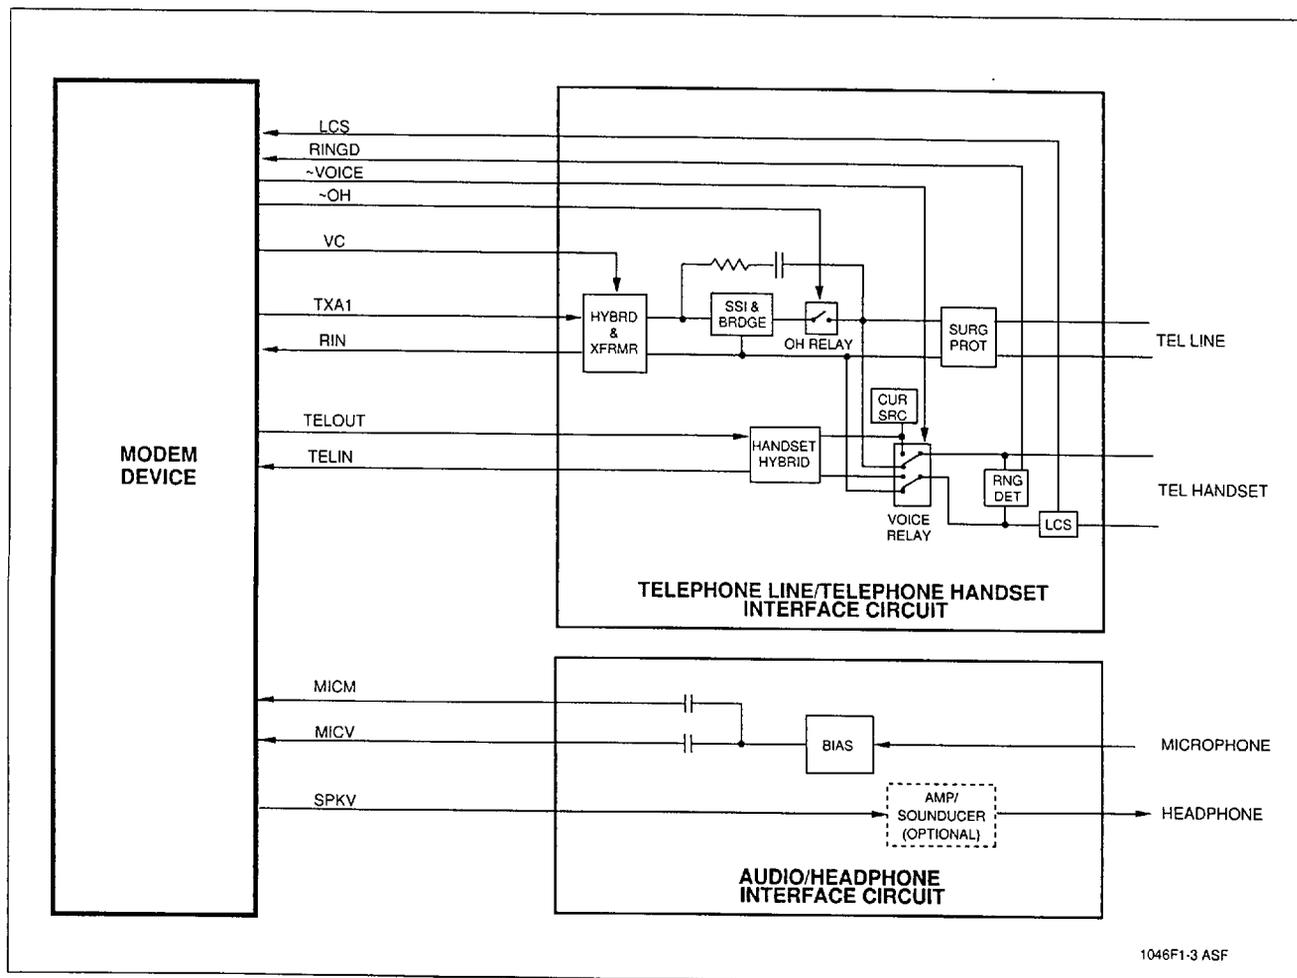
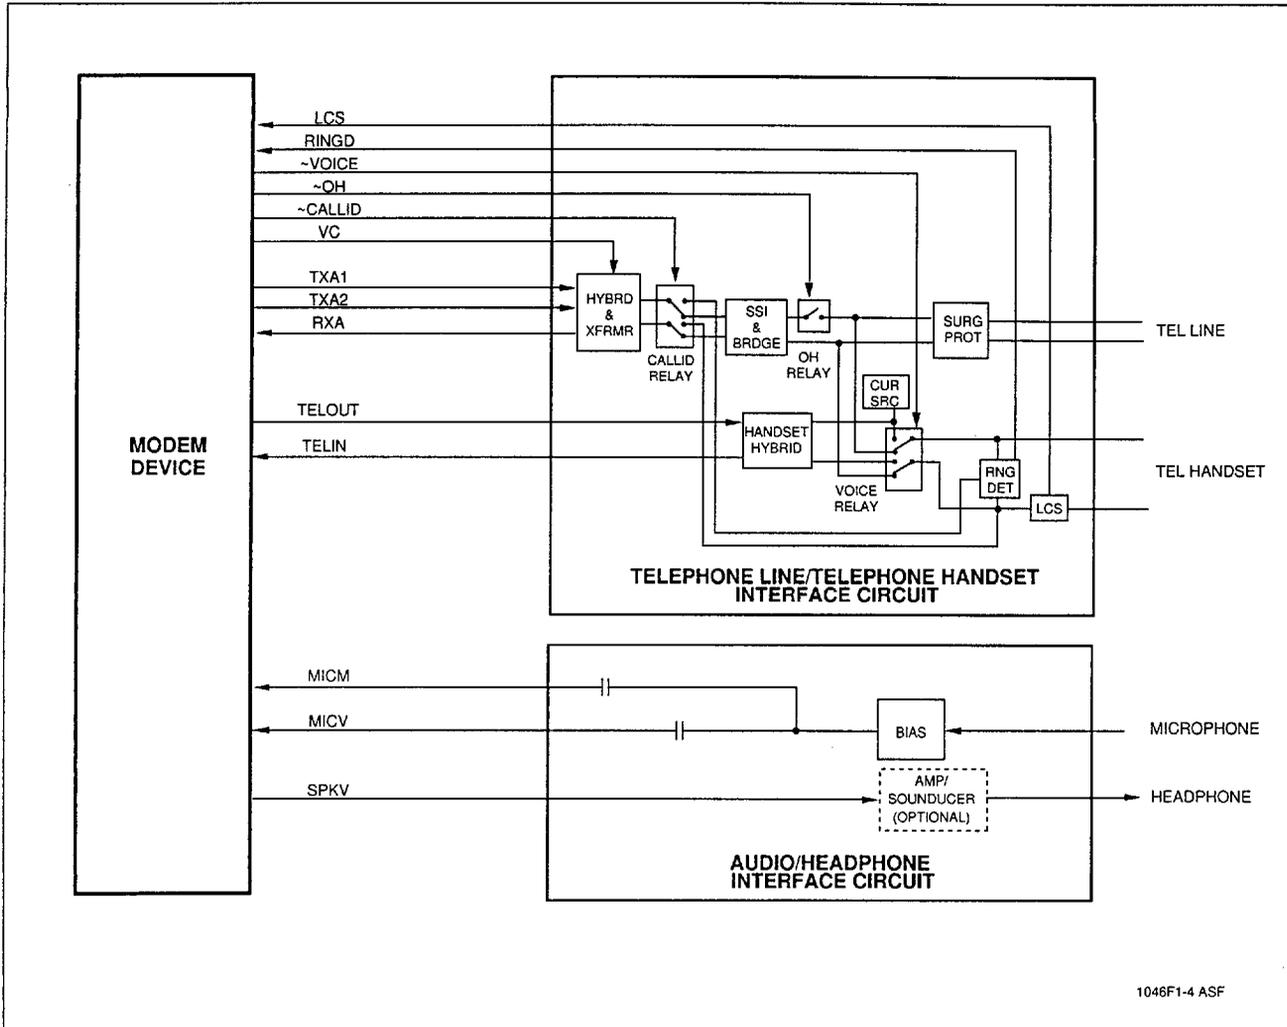

Figure 1-3. 2-Relay Telephone Line/ Telephone/Audio Signal Interface (U.S.)
Figure 1-4. 3-Relay Telephone Line/ Telephone/Audio Signal Interface (U.S.)
The Telephone Line/Telephone/Audio Signal Interface can support either a 2-relay telephone line interface without Caller ID relay (Figure 1-3) or a 3-relay telephone line interface using a Caller ID relay (Figure 1-4). In either case, the Caller ID function is supported.
- Caller ID (\sim CALLID) (The 2 relay design shown in Figure 1-3 supports the Caller ID function without using the \sim CALLID relay control output.)